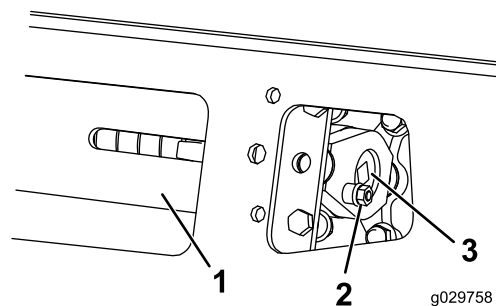

Figure 59
- Remove the locking bolt, spacer, and nut (Figure 59).
- Align the closest notch in the tension screw to the locking-bolt hole and secure the screw with the locking bolt and nut (Figure 59).
4. Remove the locking bolt and nut (Figure 59).
5. Using a 1/2-inch drive ratchet, release the drive tension by turning the tensioning screw clockwise (Figure 59 and Figure 65).